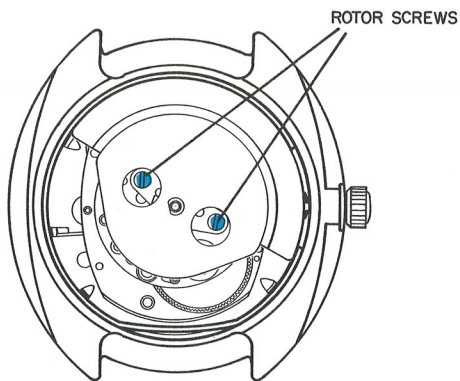
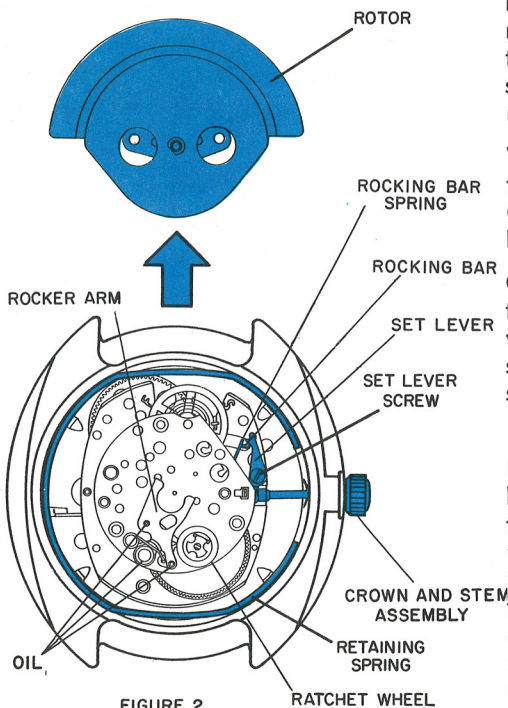
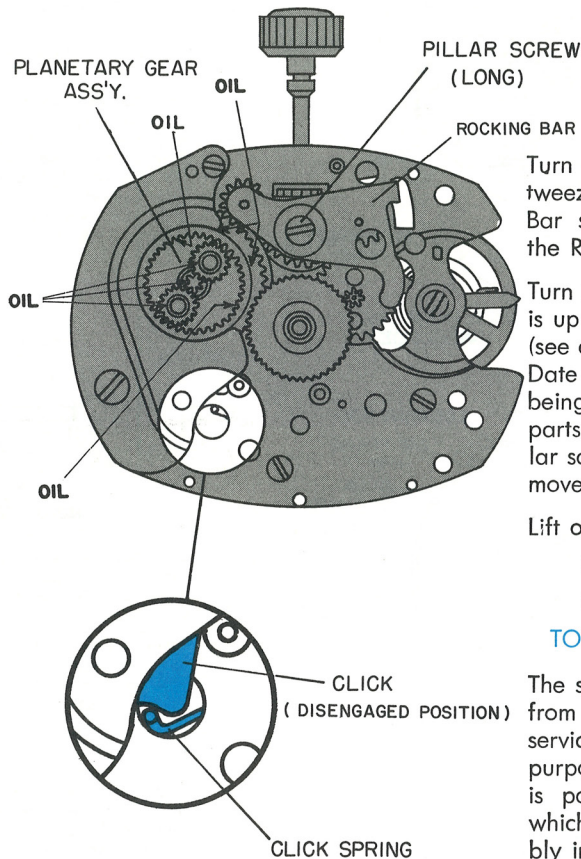

FIGURE 1
FIGURE 2
FIGURE 3
The Model 33 movement is disassembled as follows: Remove the case back. Loosen and remove two Rotor Frame Screws (see figure 1). Lift the rotor assembly slightly to free the dowels. Since the Rocker Arm fits between the Rotor Frame and the Rotor Weight, position the rotor weight as shown in figure 2 and slide the assembly along the movement plate (toward the balance wheel) until it is free of the rocker arm and then lift the assembly out of the case.
Pull crown out into the set position. Loosen the Set Lever Screw and raise lever sufficiently to release the stem and pull the crown and stem assembly free of the movement and the case (see figure 2).
With tweezers, carefully remove the retaining spring from the Bezel (figure 2). Be careful not to damage Balance Wheel Assembly.
Turn movement over and with tweezers, lift end of the Rocking Bar spring free from the end of the Rocking Bar (see figure 2).
Turn movement over so date frame is up and remove two pillar screws (see exploded view page 33 2). Lift Date Frame Assembly off movement being careful not to disturb loose parts underneath. Replace long pillar screw in the Rocking Bar on the movement (see figure 3).
The stored power must be released from the mainspring in order to service the movement. For reference purposes, the click in this movement is partially hidden by the plate which holds the planet gear assembly in position (see Figure 3).
- B. Lubricate with fine watch oil #1 ratchet wheel teeth and three pivot points shown figure 2.
- C. Lubricate with fine watch oil the seven bearing points of the planetary gear system noted on figure 3 (page 33.5).
Remove the short Pillar Screw (if assembled) and the long Pillar Screw from the movement. Be sure the bushing is in place in the rocking bar and then position the lubricated Date Frame Assembly on the movement as shown on Page 33.2 and in Figure 3. Hold Date Frame assembly in place and check proper Date Wheel engagement by testing with tweezers. Secure the Date Frame assembly to the movement with the long and short pillar screws. Reengage the Rocking Bar spring as shown in Figure 2. Check for proper engagement and function of the crown and stem assembly. Rotate crown enough to move finger on the Date Wheel away from the cut out at the center post (see Page 33.4).
Reassemble the Retaining Spring as shown in Figure 2. The end of the spring should be inserted into the groove near the stem at the balance wheel end of the movement. Insert the rest of the spring into the groove being careful not to damage the balance assembly.
Reassemble the rotor assembly by sliding it into the movement under the rocker arm as shown in Figure 2. Secure the rotor to the movement with two screws as shown in Figure 1.